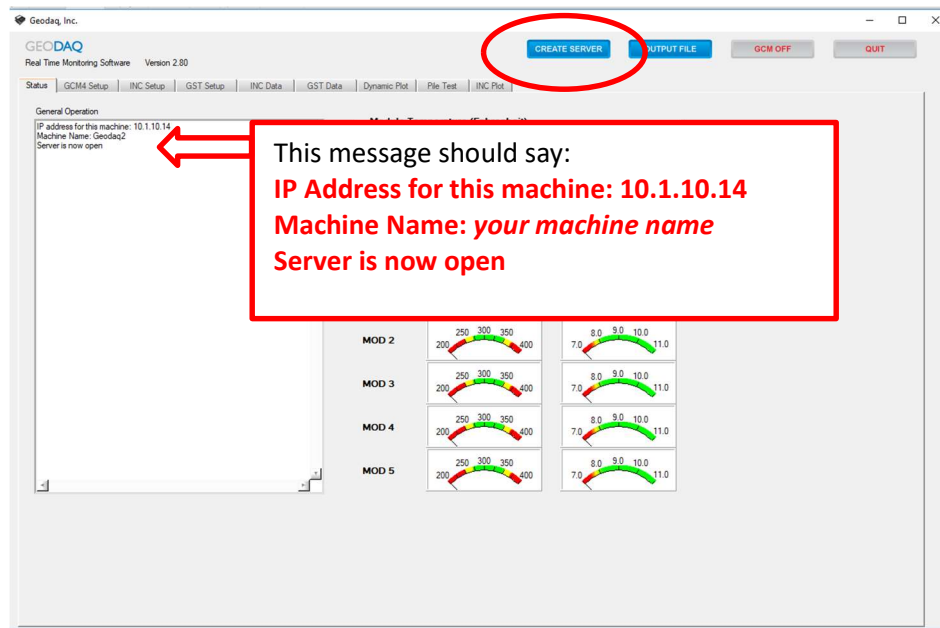

Figure 8 – Create Server
- The message shown in Figure 8 indicates a successful connection with the GCM4.